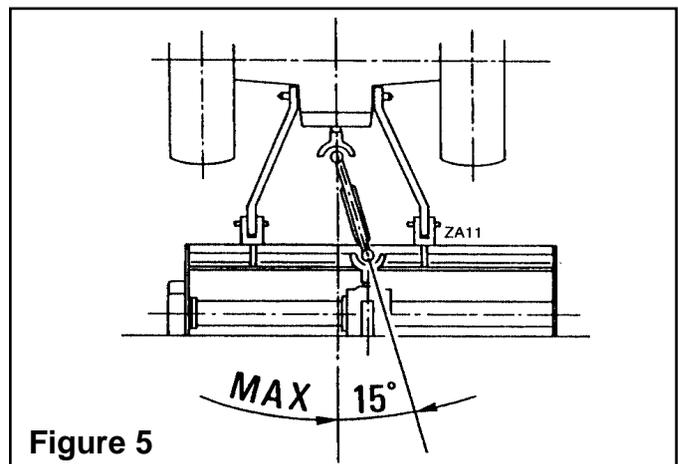

Figure 5
**NOTE:** Make sure the PTO driveline is not angled more than 15° (see Figure 5). PTO driveline operation with more than 15° side angle will cause excessive wear on the driveline.